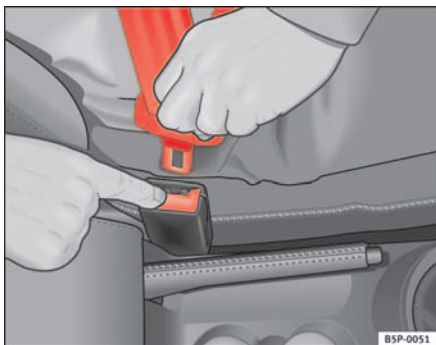

Fig. 15 Removing latch plate from buckle
- Press the red button on the belt buckle ⇒ fig. 15. The latch plate is released and springs out ⇒ .